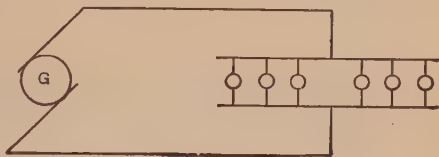

FIG. 43.
**Problem 18.** Each lamp in Fig. 43 takes 0.24 amp. How much current flows in the main line?